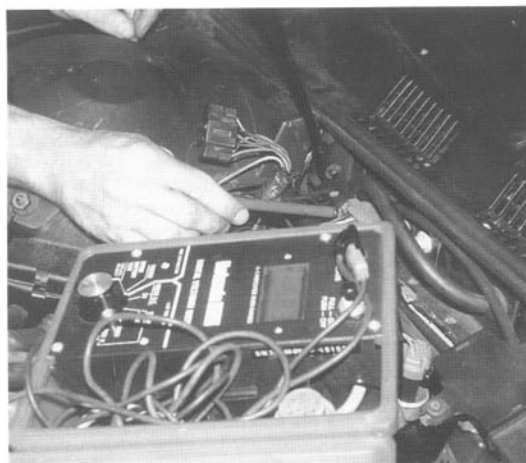

Fig. 4-1. Check for cranking and running PIP signal at the TFI-IV module (some modules are mounted on the distributor, some are mounted on the engine cowl).
- Is the Hall sender in the distributor generating a Profile Ignition Pickup (PIP) signal? See Fig. 4-1. If not, check that the Hall sender in the distributor has power and ground. If so, then the sender is probably faulty